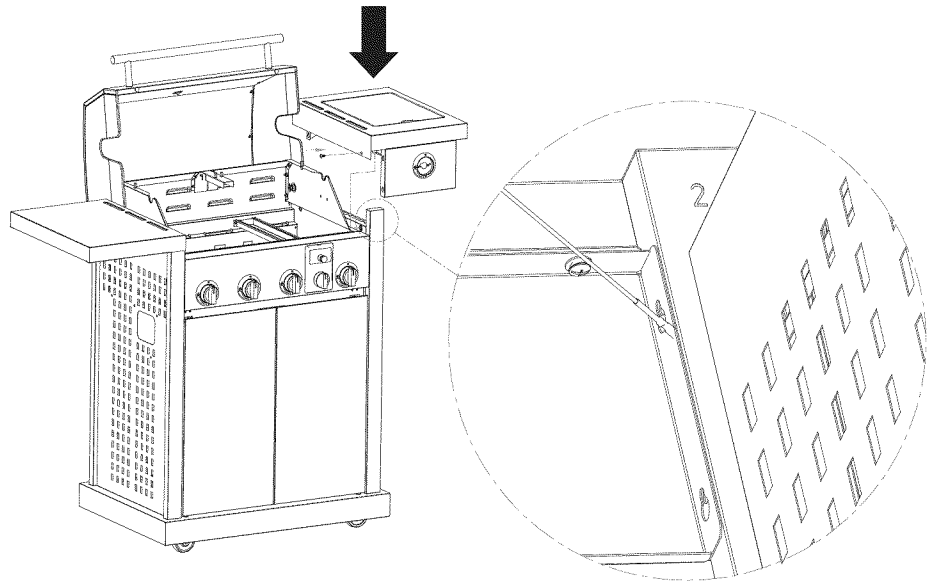

Fig. 10b
2. Hang shelf onto right-front and right-back legs as shown in **Fig. 10b**.
- Open lid. Attach right shelf to the right-side panel from inside to outside of the firebox with one (1) M6 x 13 (S.S.) screw as shown in **Fig. 10b**.